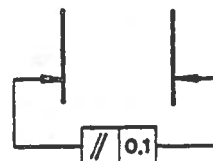

Fig. 19
- 4.4 If two associated features are identical and there is no reason to give preference to one as a datum feature, then the tolerance is indicated as in Figure 19.